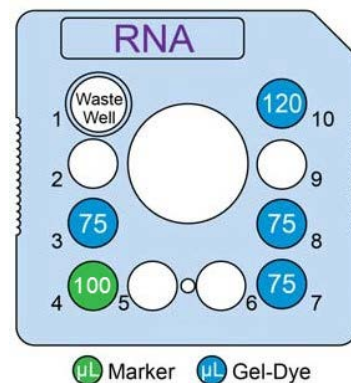

Figure 2. High-Throughput Chip Preparation
2. Add prepared Gel-Dye to chip wells 3, 7, 8 and 10 (as shown in Figure 2) using a Reverse Pipetting Technique.
3. Add **100 µL** RNA Marker ● to chip well 4 (as shown in Figure 2).